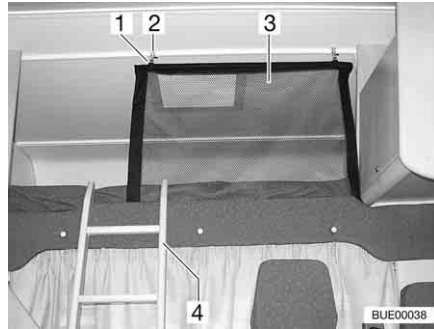
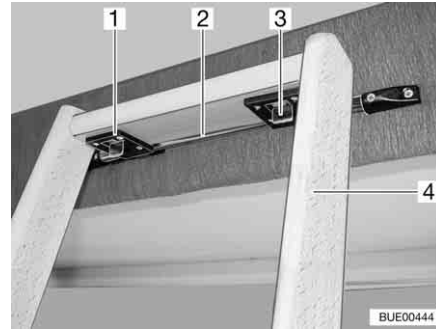

Fig. 99 Overcab bed
Fig. 100 Access ladder, catch
Access ladder Always use the access ladder (Fig. 99,4 and Fig. 100,4) provided as standard to access the overcab bed.
- Hang the ladder with the two hooks (Fig. 100,1) on the rail (Fig. 100,2) of the alcove flap.
- Push the two catches (Fig. 100,3) forward.
Safety net The safety net (Fig. 99,3) is stored as standard between the mattress and slatted frame. Only use the safety net if persons are already in the alcove.
- Attach the holder (Fig. 99,1) to the eyes on the ceiling (Fig. 99,2).